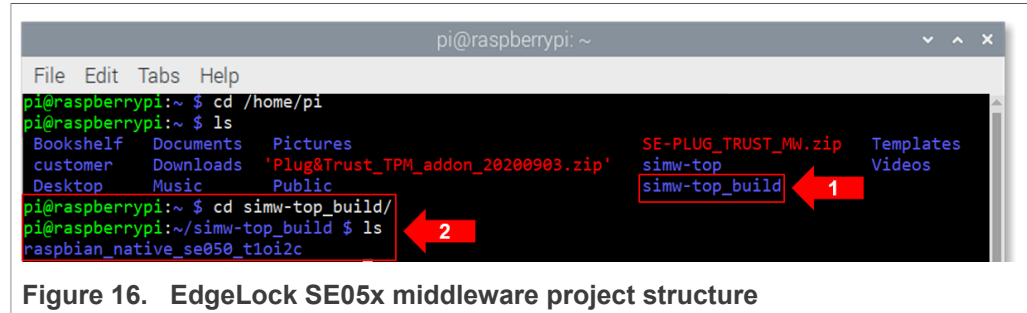

Figure 16. EdgeLock SE05x middleware project structure
- If the compilation is successful you should (1) see a new `simw-top_build` folder inside the `/home/pi` folder and (2) a new folder inside the `simw-top_build` folder as shown in Figure 16: